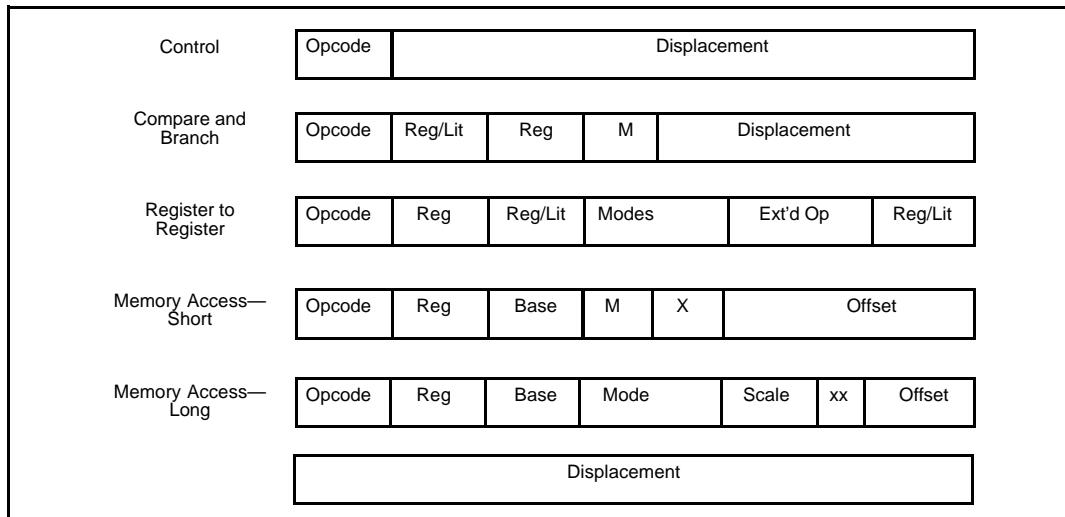

Figure 3. Instruction Formats
4. Simple Instruction Formats. All instructions in the 80960KB are 32 bits long and must be aligned on word boundaries. This alignment makes it possible to eliminate the instruction alignment stage in the pipeline. To simplify the instruction decoder, there are only five instruction formats; each instruction uses only one format. (See Figure 3.)